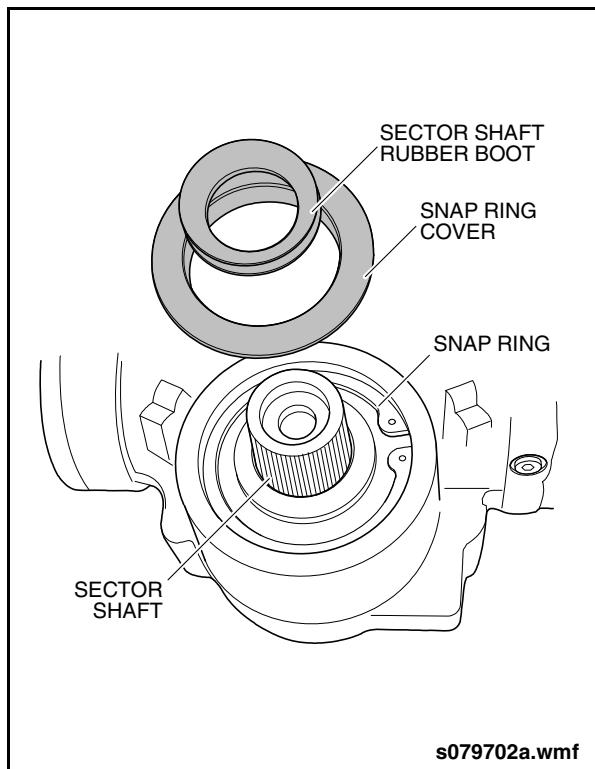

Fig. 3-18: Sector Shaft Boot & Cover Removal
2. Remove sector shaft rubber boot and snap ring cover. See "Fig. 3-18: Sector Shaft Boot & Cover Removal" on page 35.